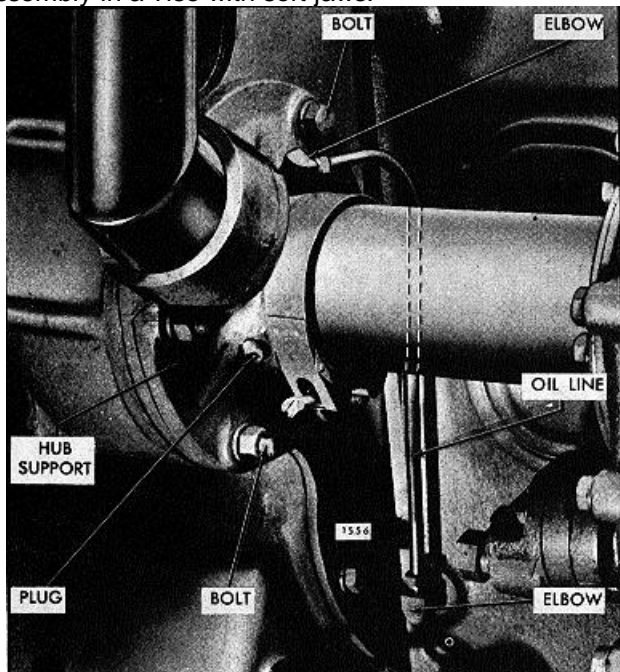

Fig. 3. Blower Drive Gear and Support Assembly Mounting
2. Remove the blower drive oil line, see Fig. 3.
4. Connect the oil line (Fig. 3).